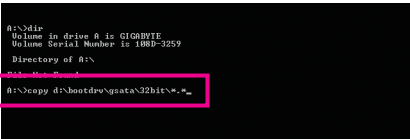

Figure 2
- For the GIGABYTE SATA2, type (Figure 2):